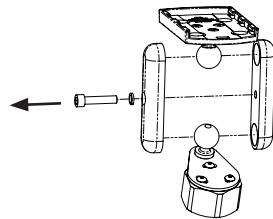

Figure 1
3. Using the 5/32" Hex Key, remove the *Positioning Screw* and *Positioning Lock Washer* to disassemble the Mount as shown in **Figure 1**.